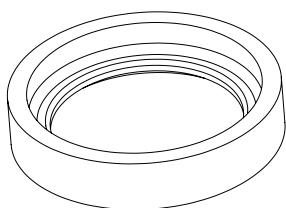

Fig. 14: Representative illustration of the middle tube adapter
The middle tube adapter (see Fig. 14: Representative illustration of the middle tube adapter) is produced by the customer and attached to the middle tube. It is connected to the drive in the installation variant “thick tube down”.
1. Mount the middle tube adapter (see Fig. 14: Representative illustration of the middle tube adapter) in the center tube.